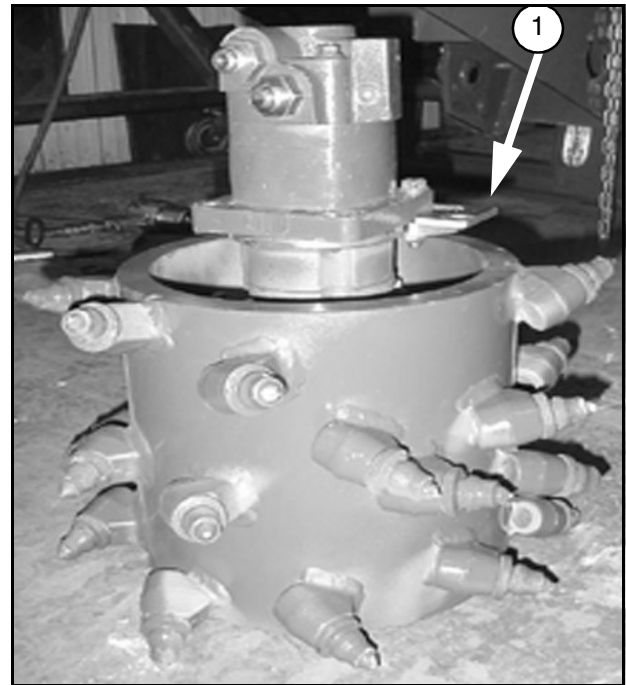

Figure 32.
2. Remove the motor mount plate (1) as shown in Figure 32.